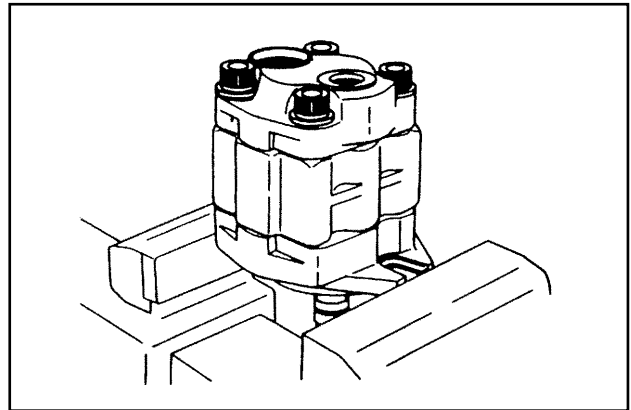

Fig. 7.18
1. The bolts will be loosened during disassembly. Make sure to hold the front cover in a vice securely as shown in Figure 7.18, to prevent the pump from the vice when a force is applied on the pump.